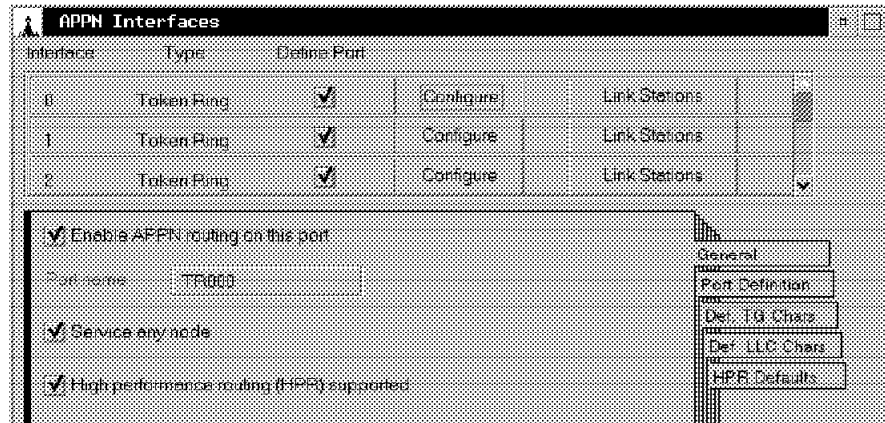

Figure 26-21. Configure APPN for Interface 0
- Select **Configure** for Interface 0 The port name TR000 has been entered for this interface, shown in Figure 26-21.